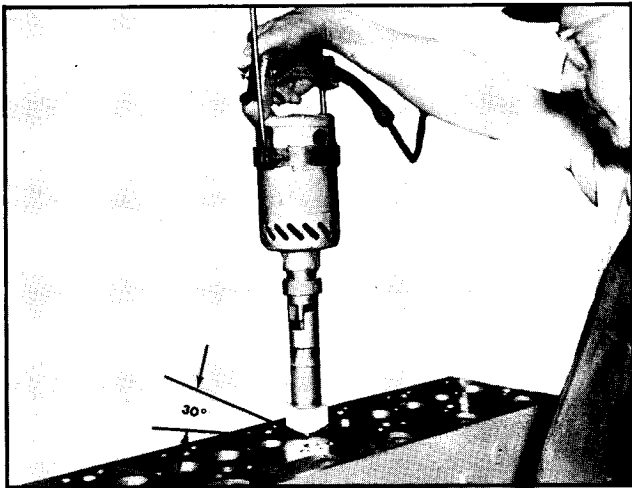

Fig. 3-14. Refacing valve seats
3. Grind valve seats, holding seating motor as nearly vertical as possible (See Fig. 3-14).